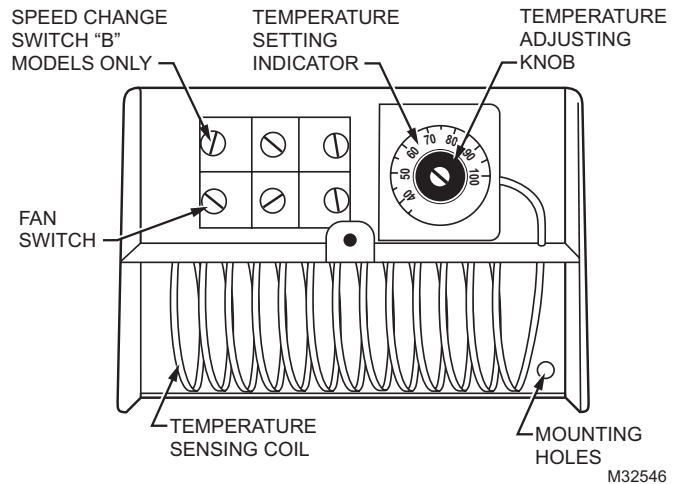

Figure 9. T631 with cover removed. T631A and C have three wiring terminals only.
2. Turn the temperature adjusting knob and scale across the indicator and back again. See Fig. 9. The controlled equipment should switch on and off.